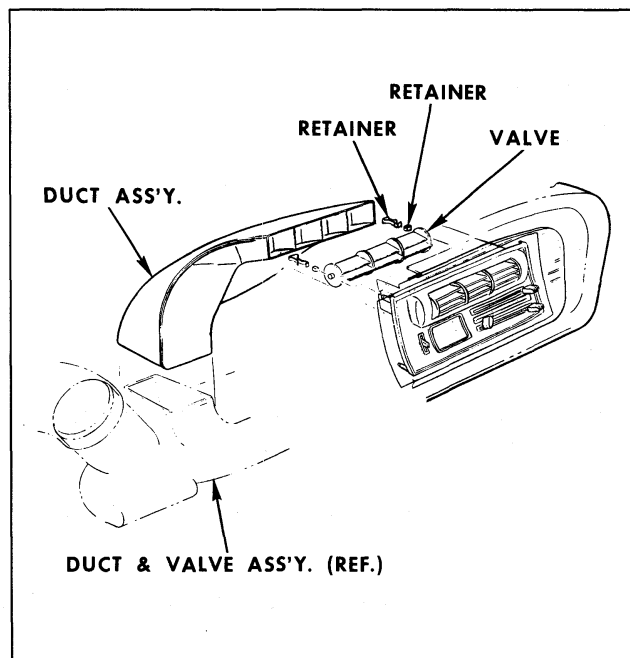

Fig. 9-8 Center Outlet Assembly
3. Remove two nozzle retaining clips and remove nozzle (Fig. 9-8).